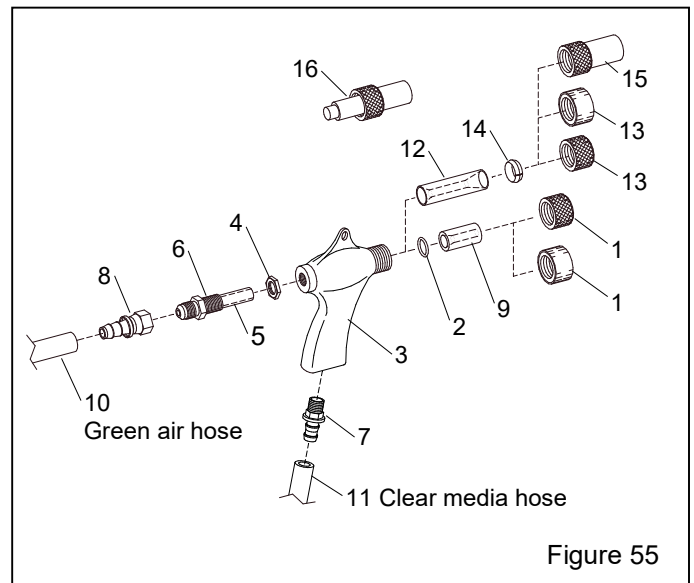

Figure 55
10.8 BNP® Gun and Feed Assembly – Figure 55